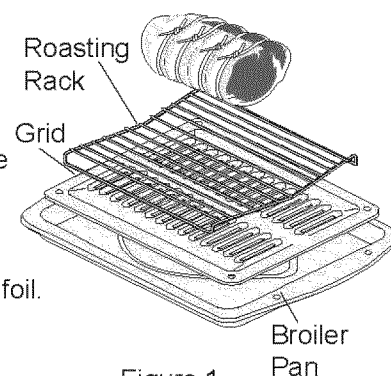

Figure 1
- Use the broiler pan and grid, and the roasting rack (Figure 1). The broiler pan will catch grease spills and the grid will help prevent splatters. The roasting rack will hold the meat.